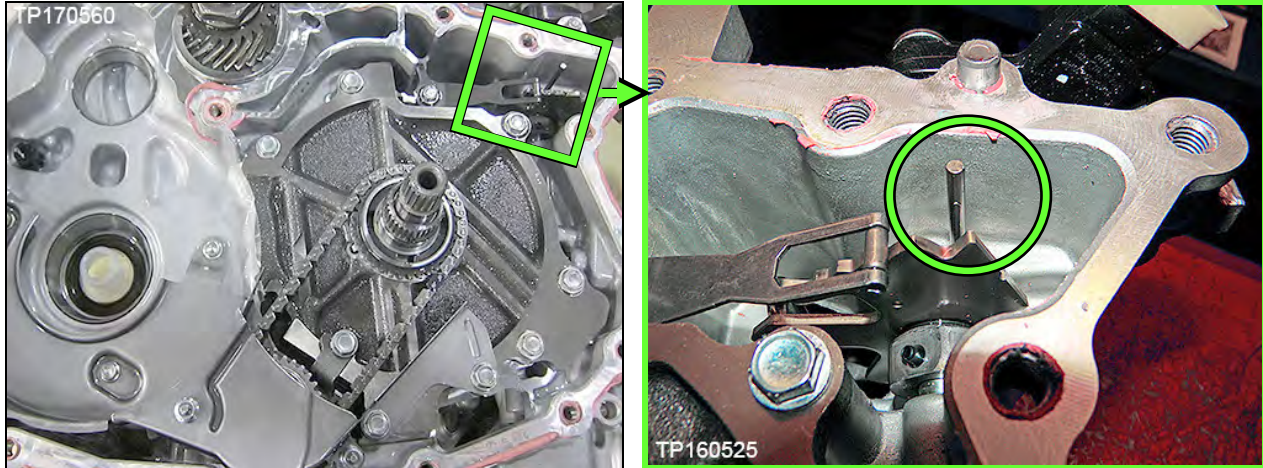

Figure 4B
3. Note the location of the pin shown in Figure 4B.